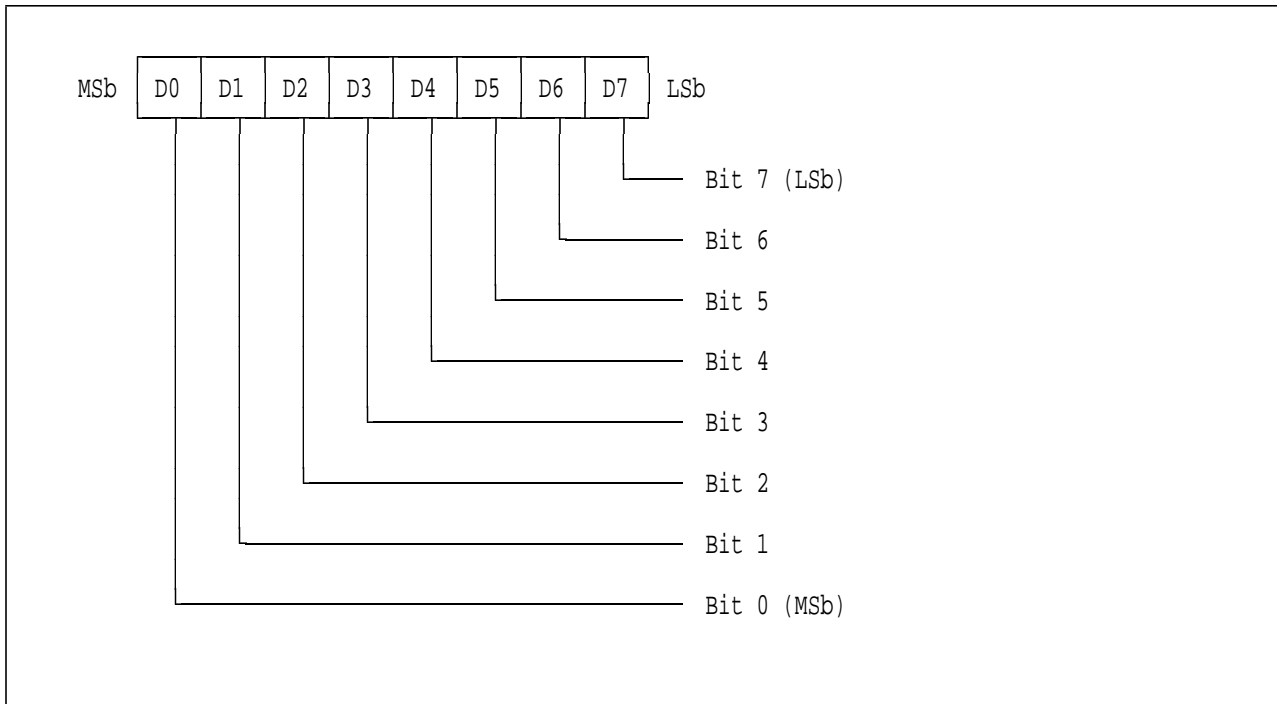

Figure 24. Register Bit Numbering
Some system I/O addresses which are defined for this implementation are described in the following subsections. **For the registers defined in this subsection, the bit significance of these registers is given in Big-Endian (BE) form (the processor's viewpoint).** The naming convention used in the schematics and the vendor data books is Little-Endian (LE) Mode. Figure 24 shows the naming convention used in these subsections.